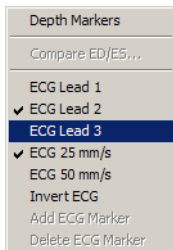

Fig. 39 Change ECG lead option
- 2 Choose the desired ECG Lead from the pop-up menu (see Figure 39)